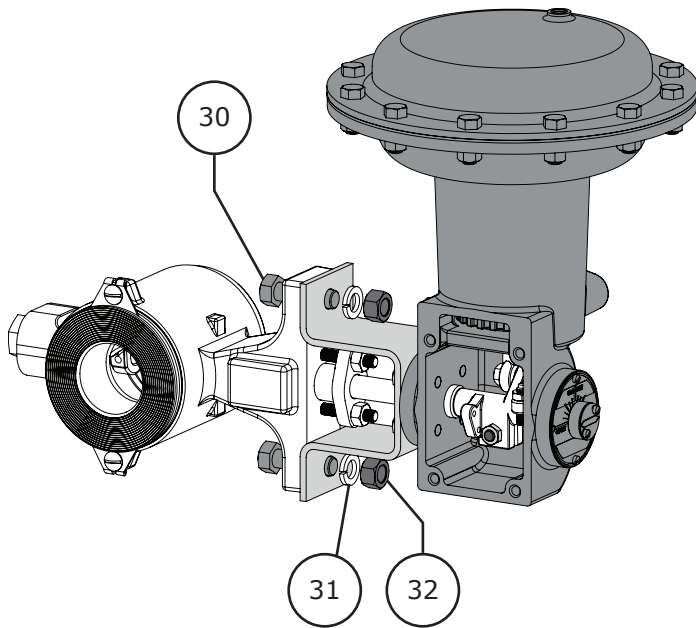

Figure 4 Actuator/Valve Body Bolting
- 9 Once the actuator is installed on the valve shaft in the proper orientation, secure the actuator in place using the mounting bolts (Key 30), lockwashers (Key 31), and hex nuts (Key 32). Refer to Figure 4, and Table 3 for torque values.